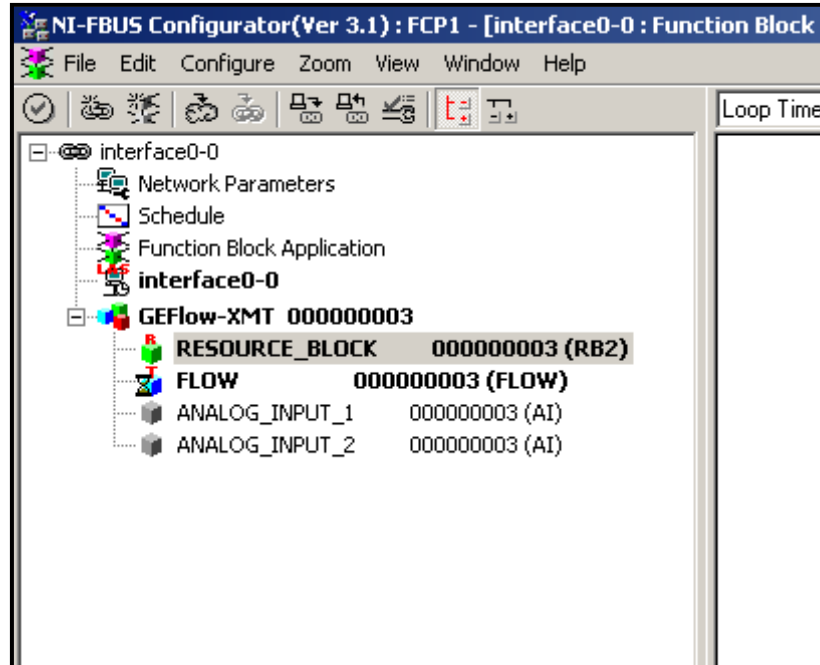

Figure 40: Configuration Utility Setup Example
Figure 40 below shows the Configuration Utility with a flowmeter on the network (Panametrics Flow-XMT).
1. Double click on the AI block for which you wish to set the units (**ANALOG_INPUT_1** or **ANALOG_INPUT_2** in the tree under **GEFlow-XMT**; see Figure 40 on page 112).
1. Double click on the **FLOW** transducer block (in the tree under **GEFlow-XMT**; see *Figure 40 on page 112*).